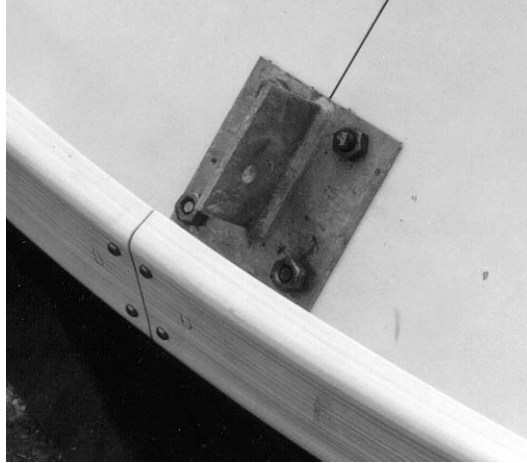

Figure 35
Step 2 Loosely attach tee plates (P/N 202447) to points **B**, **F** and **D** on convex side of reflector as shown in Figure 35.